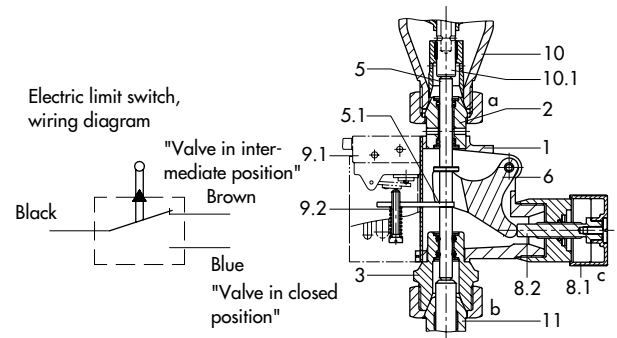

Fig. 4 · Manual Adjuster Ma
The Manual Adjuster Ma (Fig. 4) is fixed to connection c of the intermediate piece, which is identical in design with the double adapter, but only allows one thermostat to be attached to the valve. Turning the handle (8.1) will move the pin (8.2) and, via the lever (6), also the coupling pin (5).